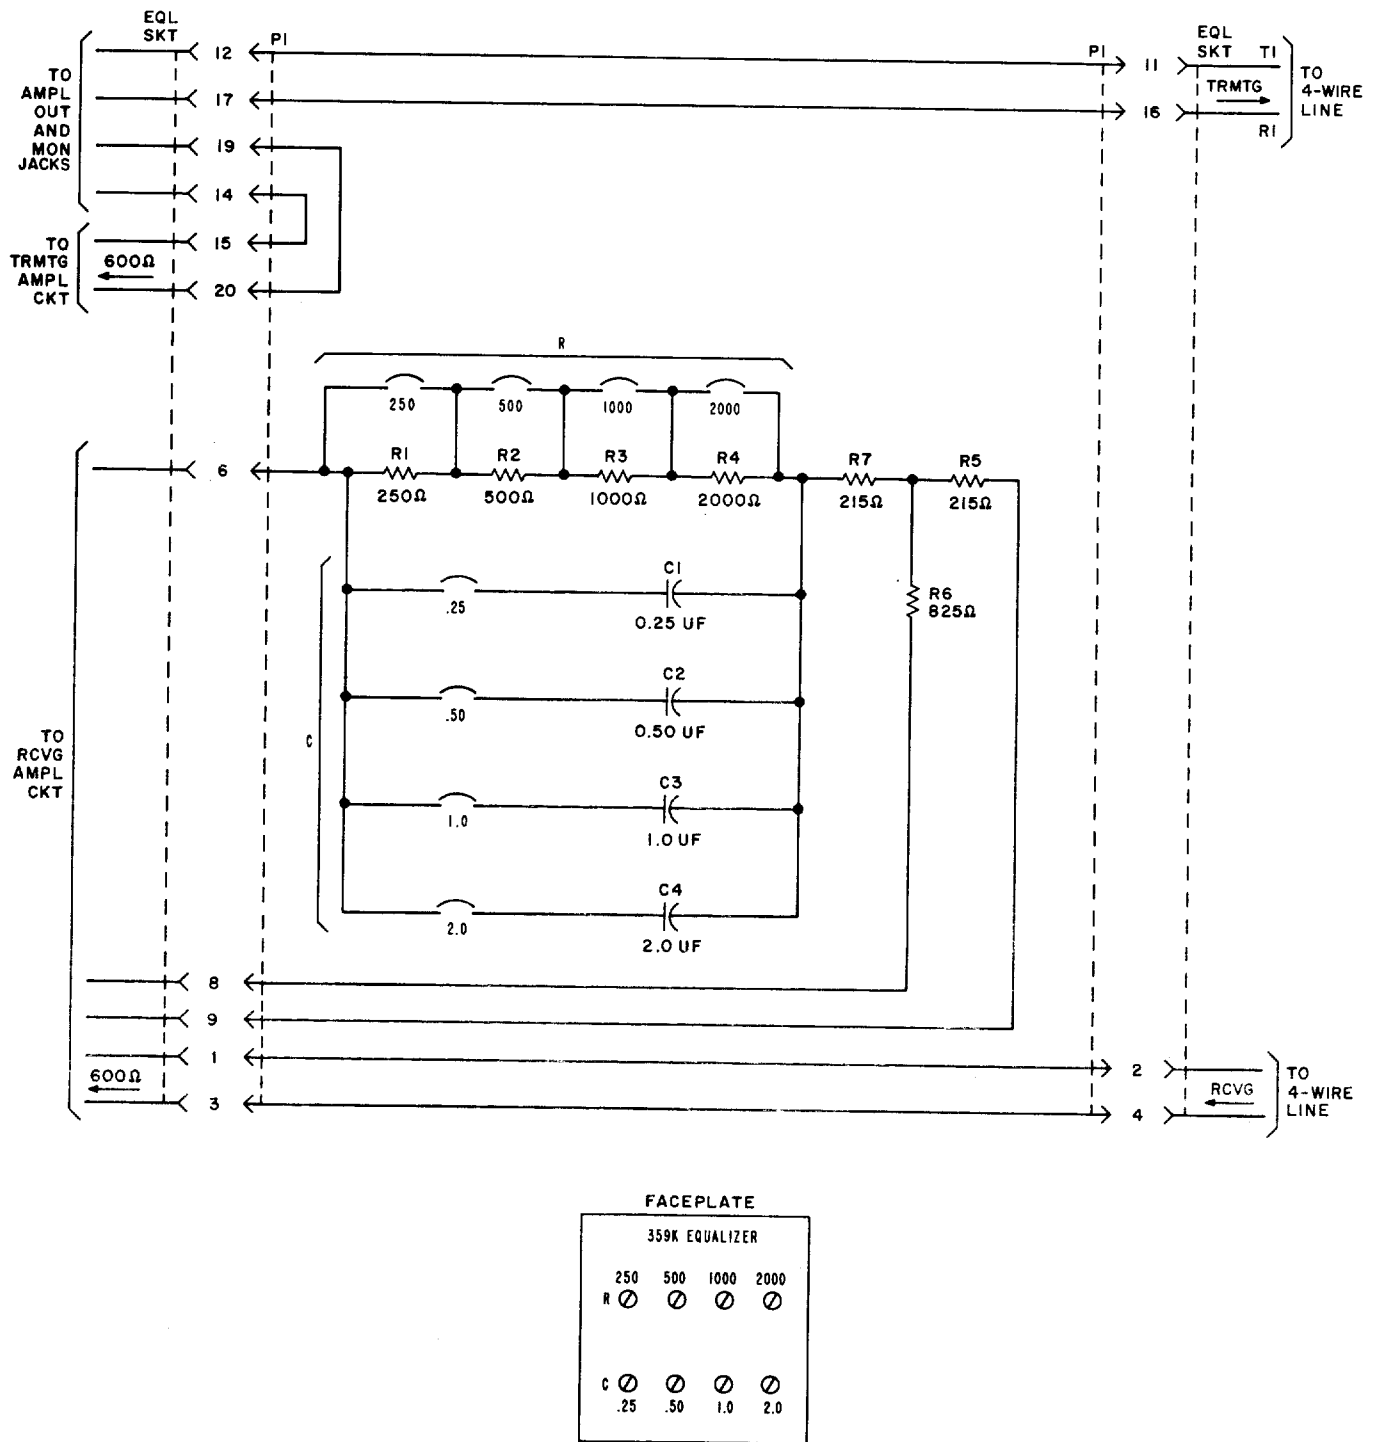

Fig. 3—359K Equalizer—Schematic and Typical Circuit Connections
**3.02** Figure 3 is a schematic of the 359K equalizer illustrating typical circuit connections when plugged into the equalizer socket of a 24V4 or 44V4 repeater. The transmitting side is strapped to provide connections to the AMPL OUT and MON jacks and also connects the 600-ohm transmitting amplifier output to the 4-wire line (H44-loaded cable).